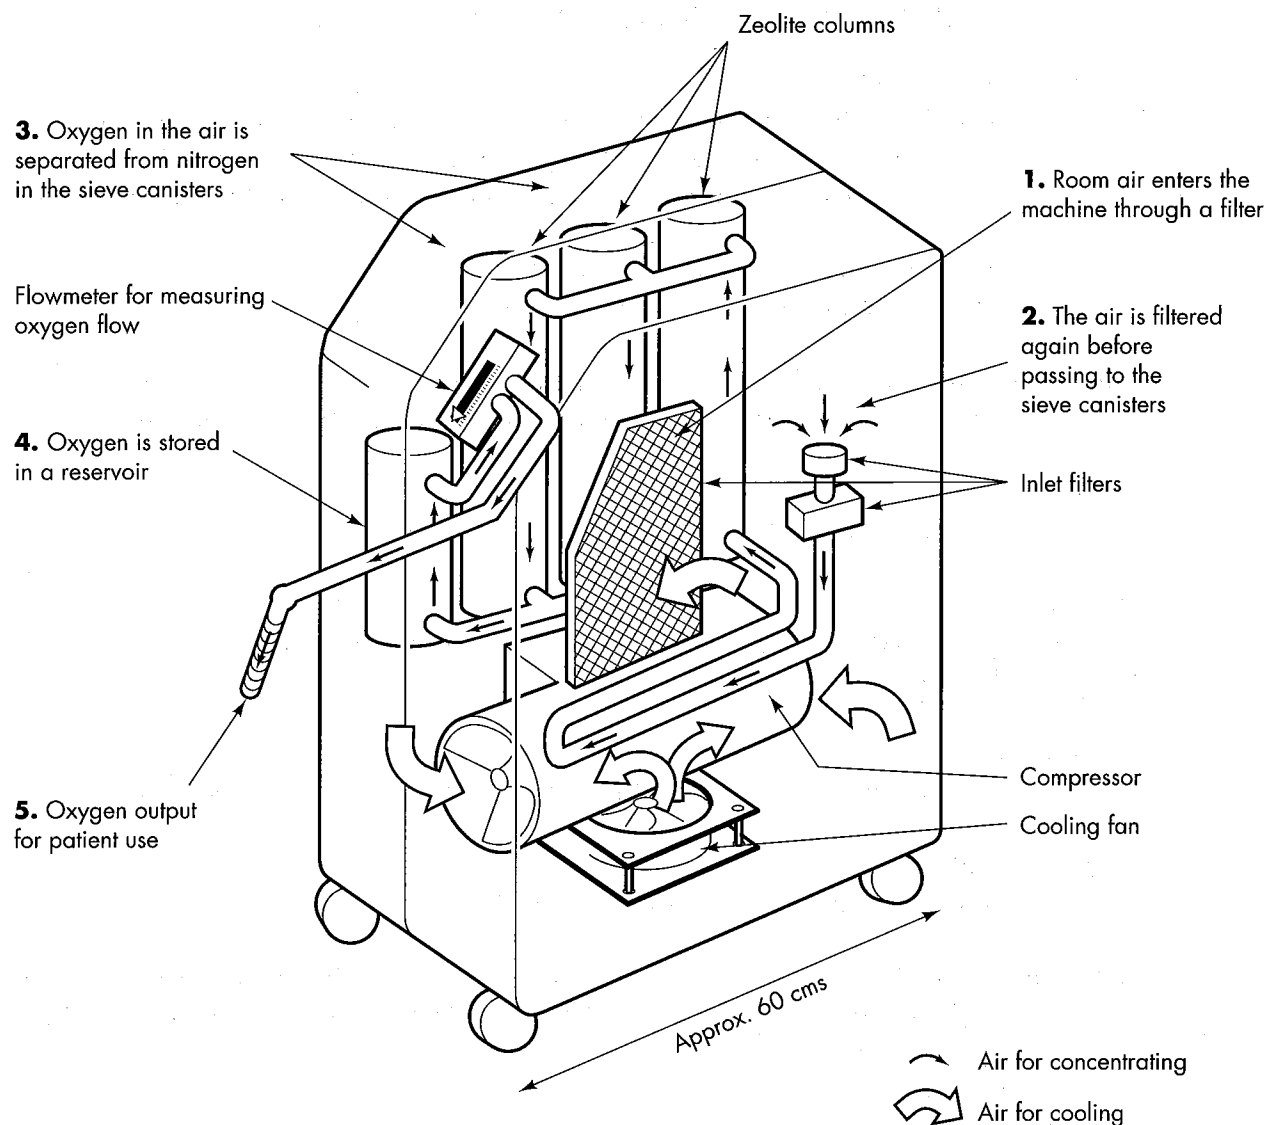

Figure 20: Oxygen concentrator in operation
- vii. make sure that the air-inlets are clear (Figure 20)